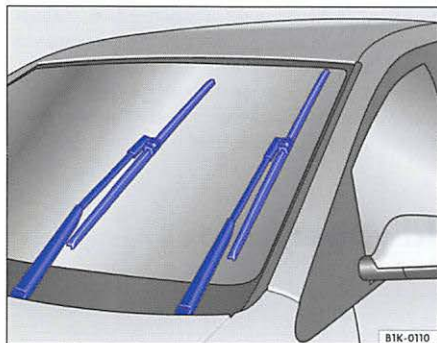

Fig. 10 Windshield wiper blades in "Service position"
- Within 10 seconds of switching off the ignition, push the windshield wiper lever down to the brief wiping position. The windshield wipers will then move up and stop in the "Service position" so that you can easily access the wiper blades ⇒ **fig. 10**.